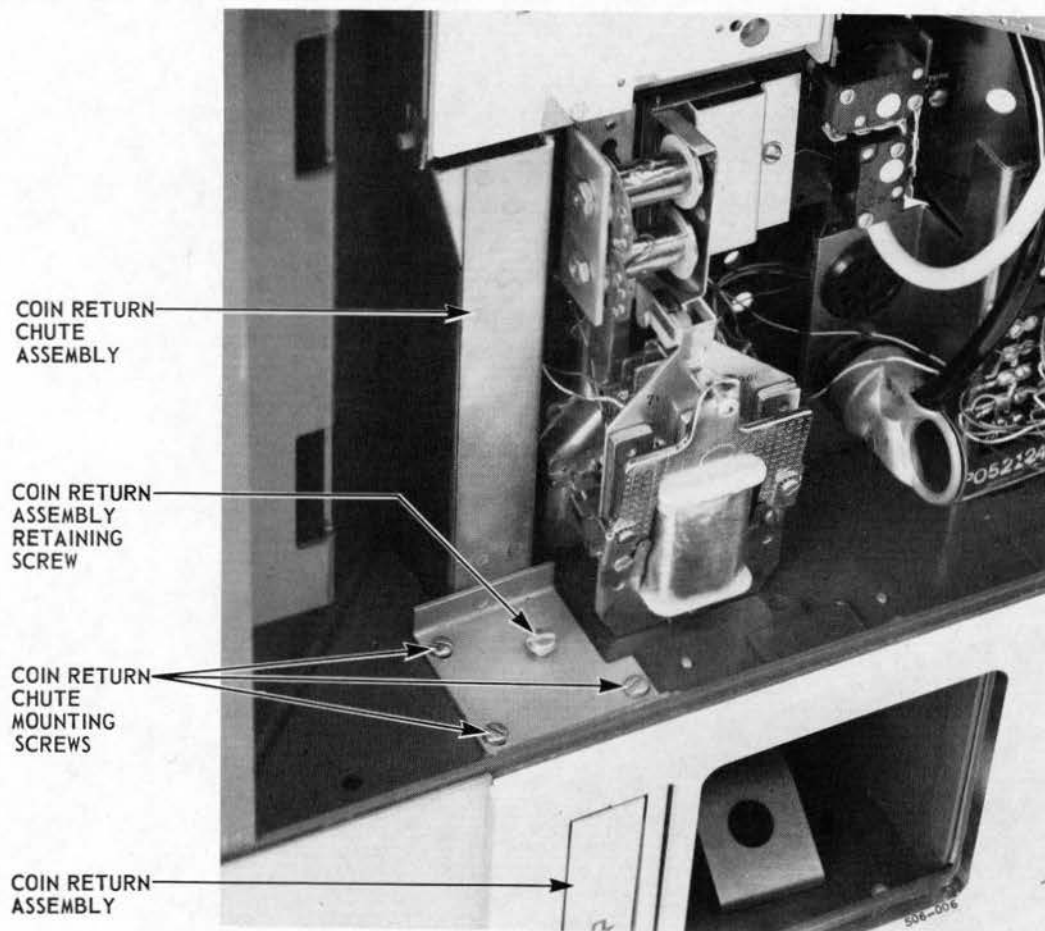

Fig. 9 — Mounting Arrangement for Coin Return Chute Assembly
**CHART 18 – REMOVAL AND REPLACEMENT OF COIN RETURN CHUTE ASSEMBLY (FIG. 9)**
3	Loosen retaining screw (Fig. 9).
4	Remove three mounting screws (Fig. 9).
CHART 21 — SUBSTITUTION OF THE COIN RETURN ASSEMBLY (FIG. 9)